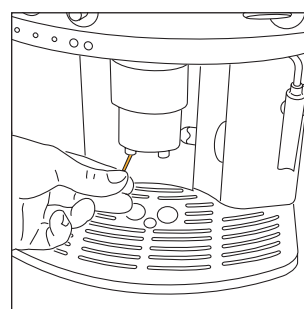

Fig. 28
- Check that the holes in the coffee delivery spout are not blocked. To clean them, scrape the dry coffee residues with a needle (Fig. 28).